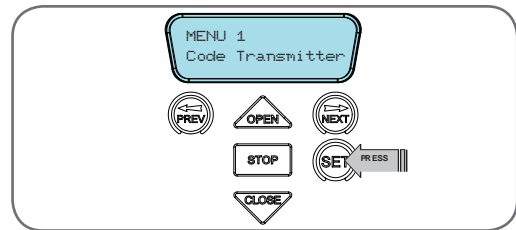

Fig 13.2
- Press NEXT to navigate to Menu 1 (Fig. 13.2).